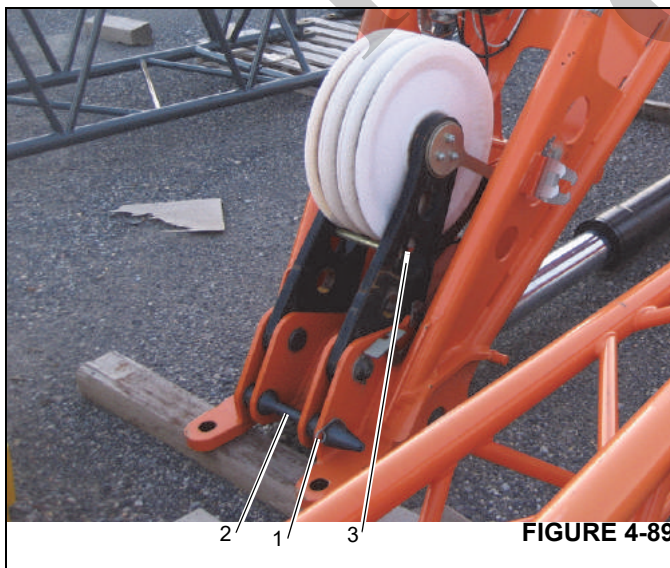

FIGURE 4-89
1. Remove the retaining clip (1) (Figure 4-89) and then the pin (2).
2. Rotate the sheave up into the stowed position, as shown (Figure 4-89).
3. Stow the pin (1) and secure with the retaining clip (2).